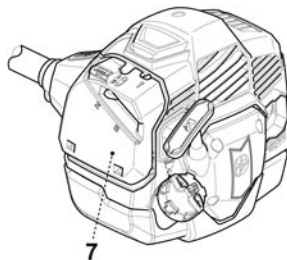

Fig. 12
- > If the engine is cold, press the primer [7] when starting (Fig. 12).